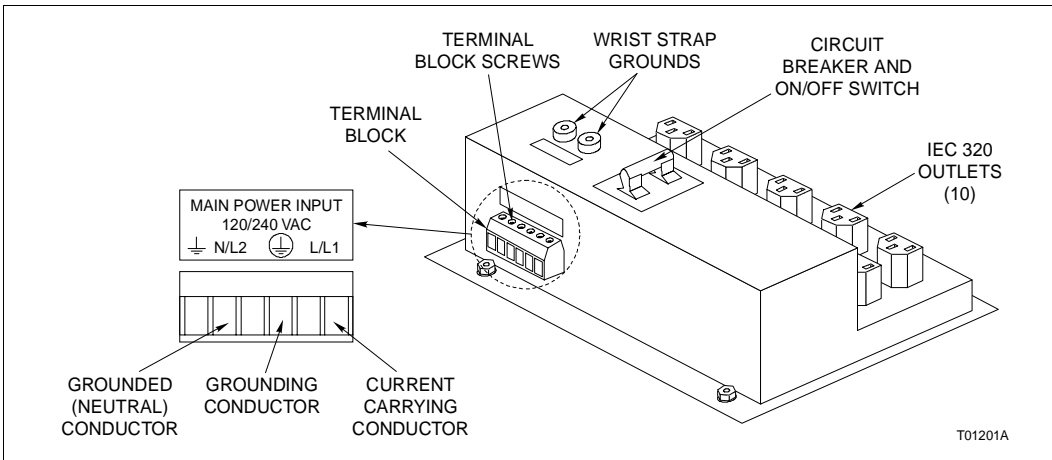

Figure PR24-2. Power Entry Panel (PEP)
- 3. Use the small-tipped flat blade screwdriver to loosen the terminal block screws (Fig. PR24-2).
- 4. Insert the wires into the appropriate locations on the terminal block as shown in Figure PR24-2.